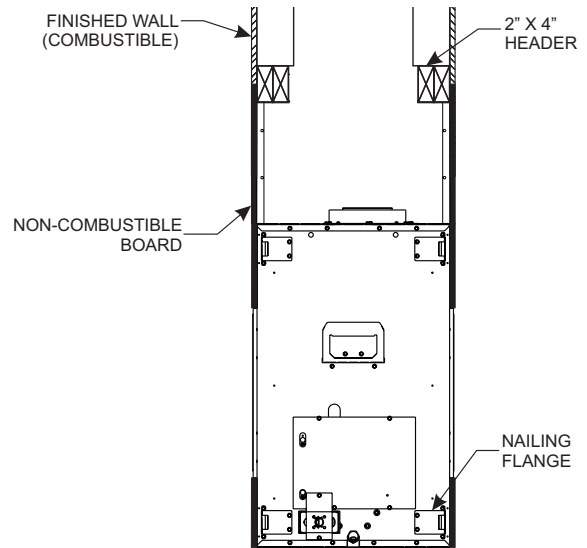

Figure 32
- Non-Combustible board installed over the fireplace face (framing bracket flush). **See Figures 32 and 33.**